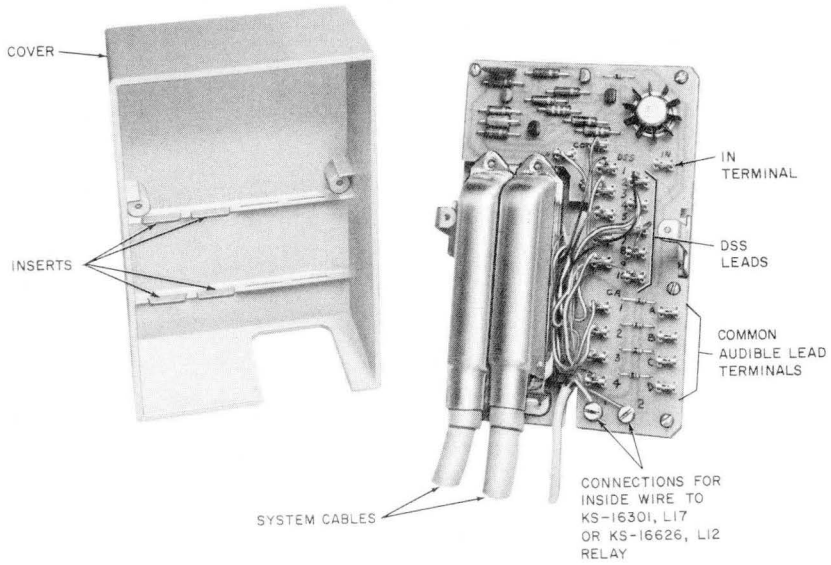

Fig. 34—25A Apparatus Unit
3.49 Install a 25A apparatus unit (Fig. 34) and an auxiliary signal as follows: